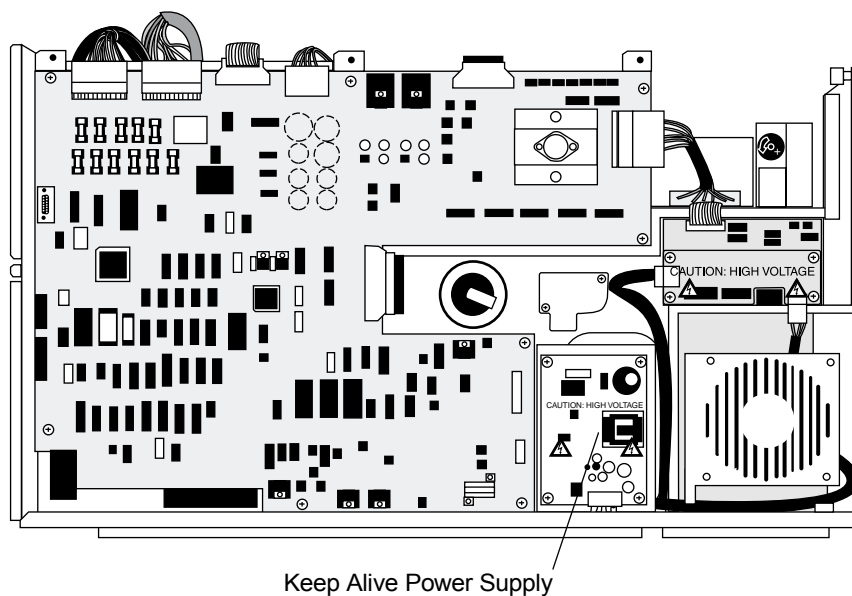

Figure 7-17. Left Side View, Showing Keep Alive Power Supply PCB
4. Remove the cover to the keep alive power supply. Figure 7-17 shows the location of the Keep Alive Power Supply.